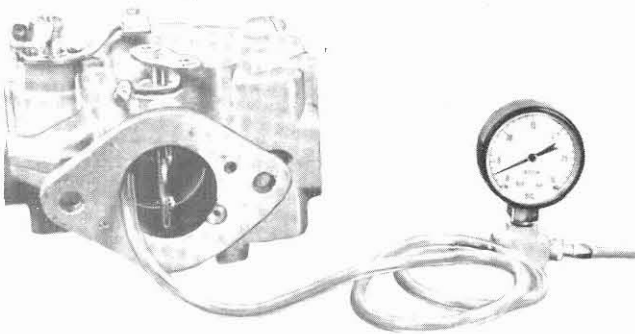

Figure 2-8. Vacuum Gage Connected to Pump-Discharge Nozzle
(1) Slip a tube down thru the throttle bore and over the pump discharge jet. Connect the tube thru a vacuum gage (see figure 2-8).